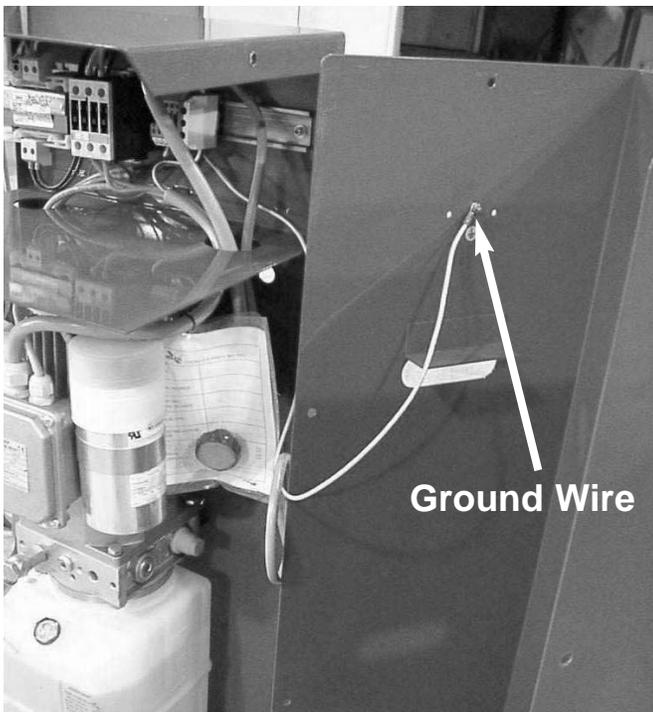

Figure 12
9. Make sure that the ground wire is properly connected to the cabinet. (See Figure 12.) Close the cabinet.